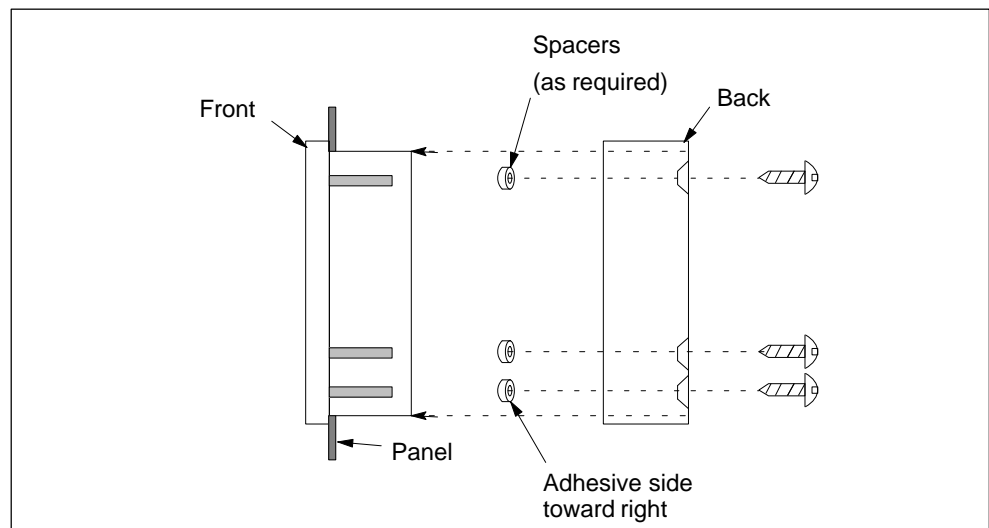

Figure 2-4 Mounting the PG 702 in a Panel
2. Remove the three screws on the rear of the PG 702 (see Figure 2-4).